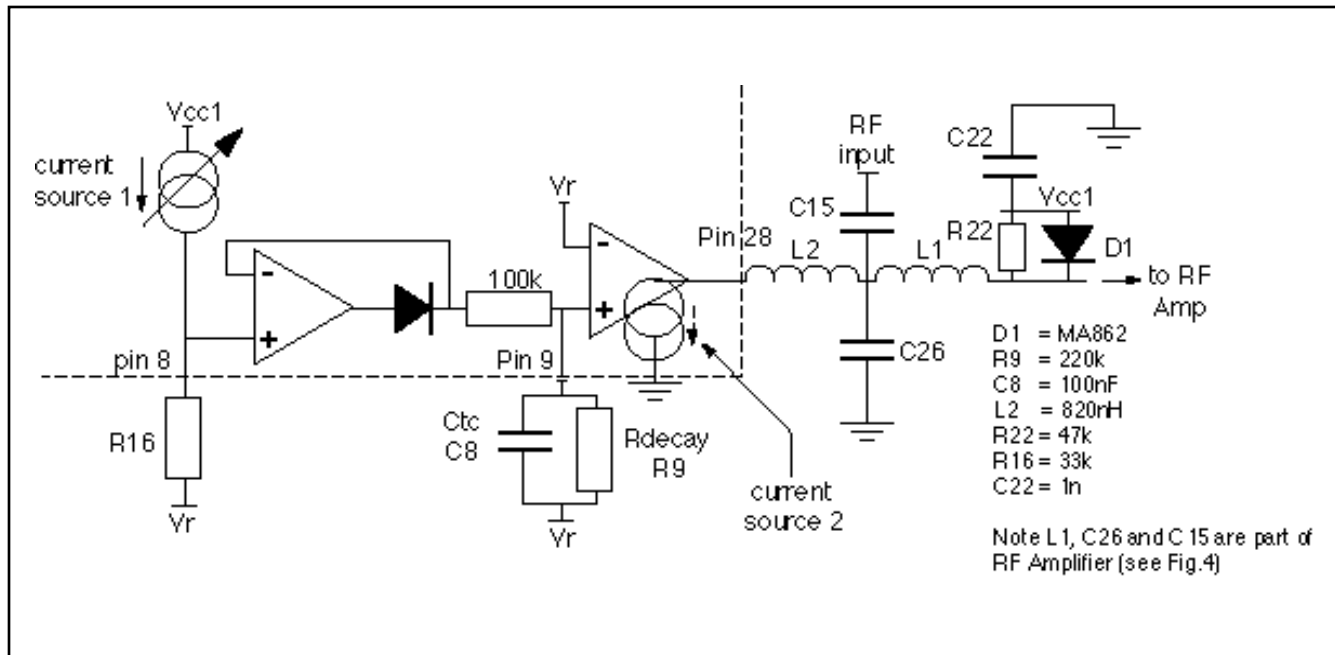
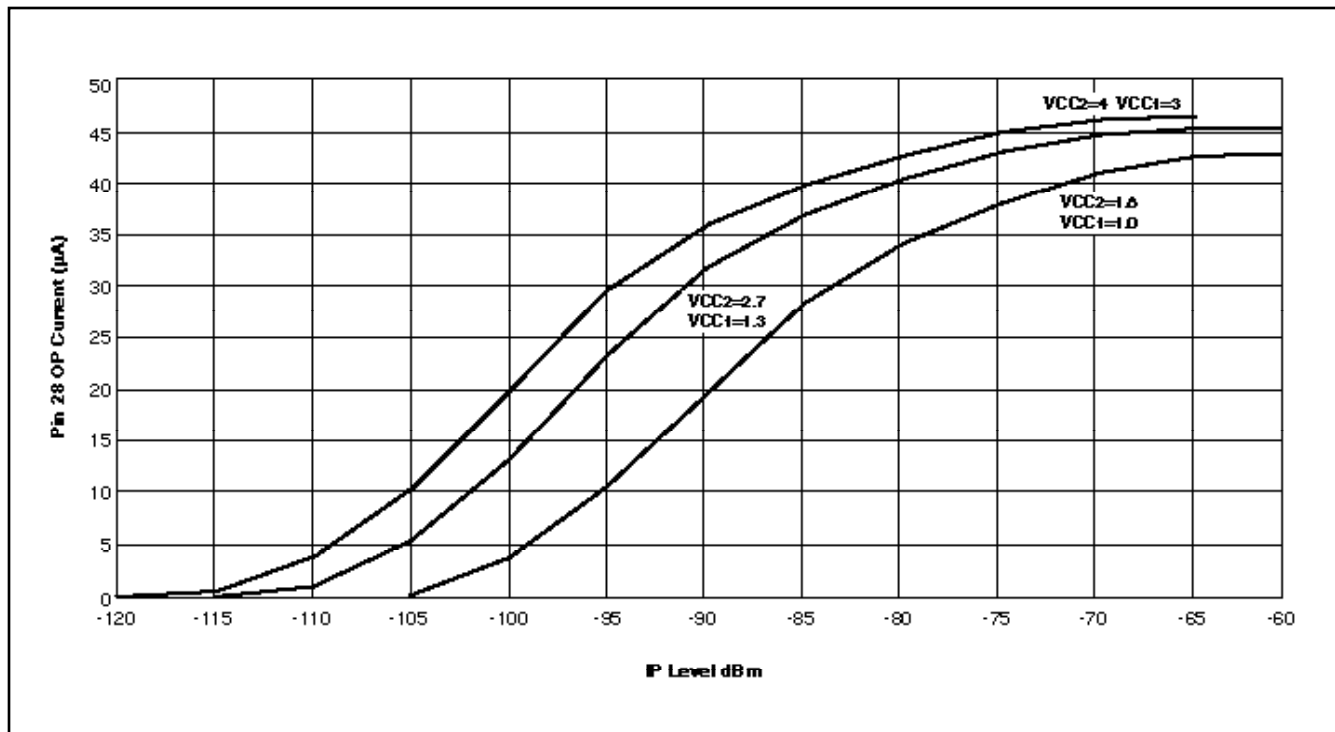

Fig.6 AGC Schematic
Fig.7 Audio AGC current vs. IP power at 25°C
4. L2 is used in the Audio AGC circuit (see Fig.6). For the characteristics of the Audio AGC current source see figure 7. If the Audio AGC is not required then the current source (Pin 28) may be disabled by connecting Pin 9 (TCADJ) to VR (Pin 6) and by connecting Pin 28 (IAGCOUT) to Vcc1, (R18). The voltage at Pin 8 may still be used as an RSSI. R9, C8, C14, C19, R17 and D1 may then be omitted.